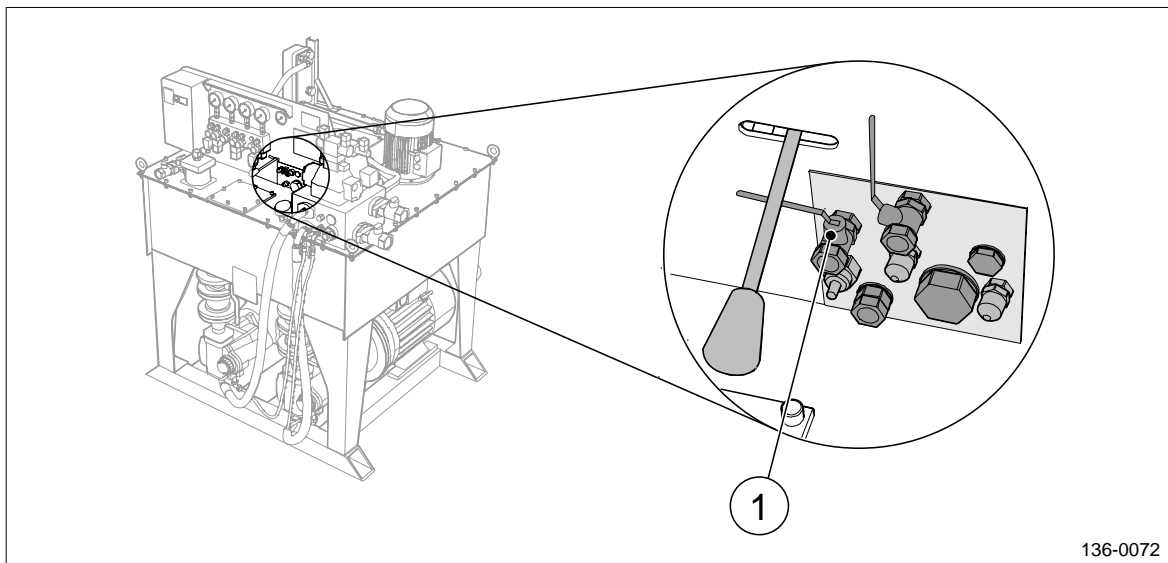

Figure 2 The emergency operating control panel on the hydraulic power pack unit.
5. Open, if the vessel is equipped with a gravity tank, the shut-off valve V25 (pos 1, figure 2) and drain the oil in the gravity tank into the hydraulic power pack tank. This will reduce the static pressure.